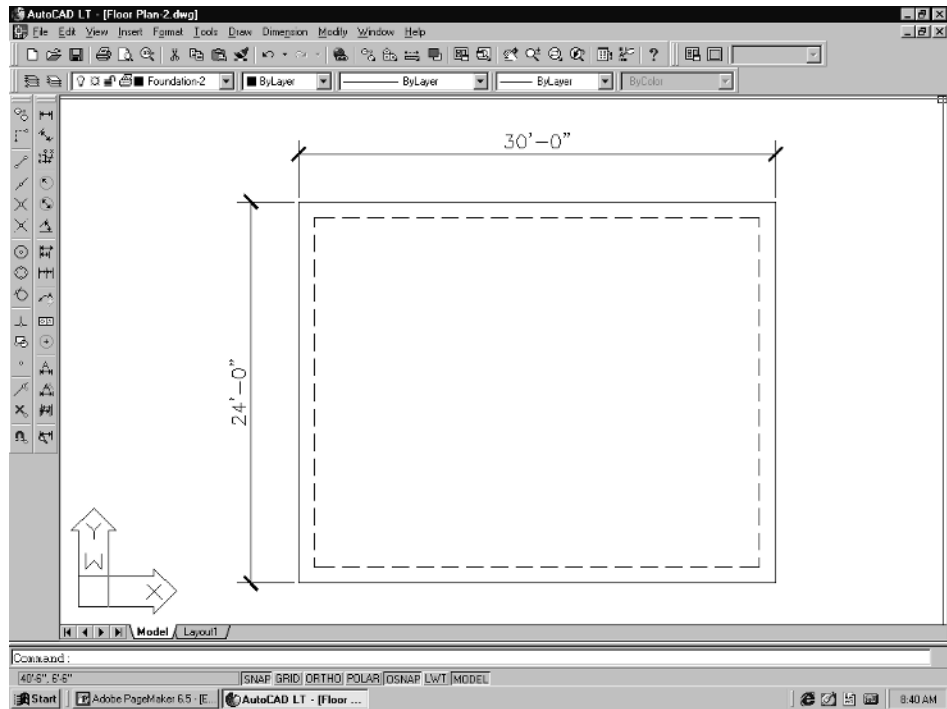

Figure 3-7
7. Next, we will dimension the foundation. Change the current layer to **DIM**, then select **Linear** from the Dimension pull-down menu. The dimension style should be set on RA96 already. Zoom out a little so that you are able to fit your dimensions on the screen. Now, dimension one width and one length, as in Figure 3-7.